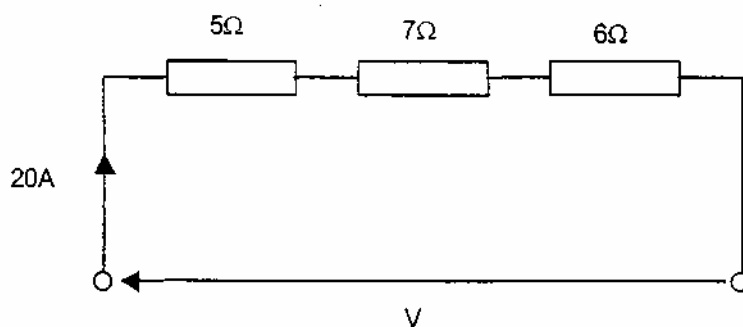

Fig. Q.11.
10. Describe, with the aid of a sketch, the principle of operation of a dc electric motor. (10)
11. For the circuit shown in Fig.Q. 11, calculate EACH of the following: